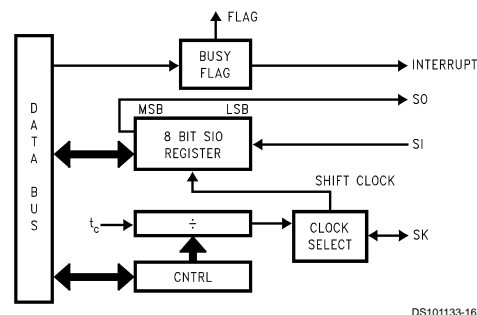

FIGURE 16. MICROWIRE/PLUS Block Diagram
MICROWIRE/PLUS is a serial synchronous communications interface. The MICROWIRE/PLUS capability enables the device to interface with any of National Semiconductor's MICROWIRE peripherals (i.e. A/D converters, display drivers, E²PROMs etc.) and with other microcontrollers which support the MICROWIRE interface. It consists of an 8-bit serial shift register (SIO) with serial data input (SI), serial data output (SO) and serial shift clock (SK). Figure 16 shows a block diagram of the MICROWIRE/PLUS logic.